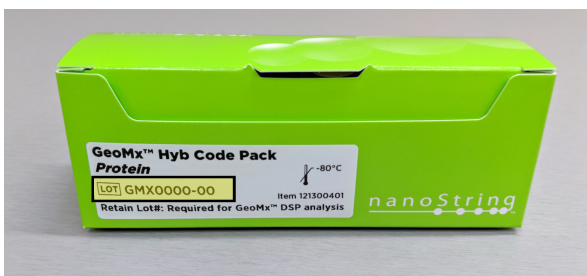

Figure 15: Hyb Code Pack lot number
1. Thaw the reagent **ICP**. To prepare for a subsequent step, thaw the required **GeoMx Hyb Codes** noted on the lab worksheet. Record the lot number of the GeoMx Hyb Code Pack (see Figure 15).